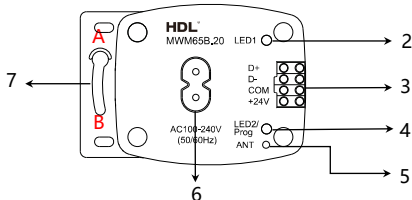
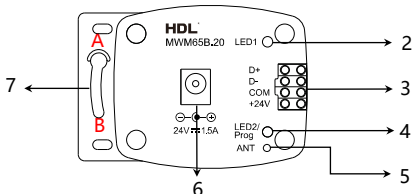

Figure 4. Bottom view (2) - 220V AC ver.
Figure 5. Bottom view (2) - Adapter ver.
As shown in Figure 4 and Figure 5,
1. Pull and turn the clipping lock (Mark 7 in Figure 4 and Figure 5) from A to B .